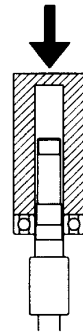

Fig. 13
- (1) Press the first bearing ⑳ onto shaft ⑥ until seated against the shoulder facing the printed side front (pulley side), and then, press the second bearing ㉑ facing the printed sides each other. (Fig.13)
- (2) Install bearing washer ㉒ and bearing nut ㉓.
- (3) Fill bearing ㉒ with the grease.